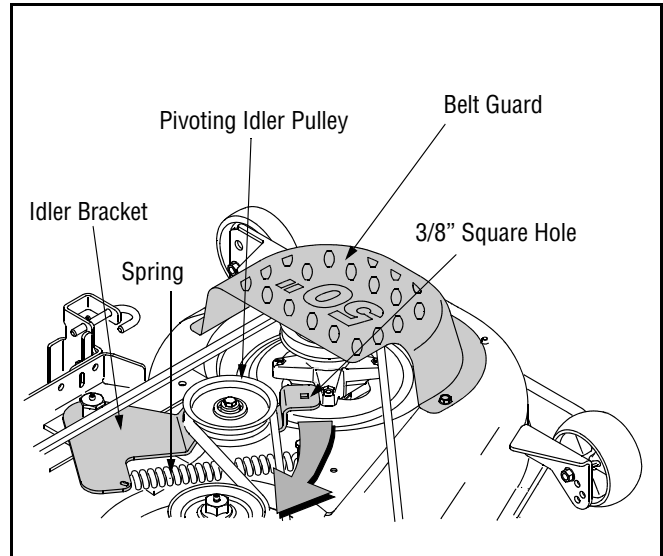

Figure 25
- To ease in removing the belt in later steps, loosen, but do not remove, the bolt which secures the pivoting idler pulley to the idler bracket. See Figure 25.
- Insert a 3/8"-drive ratchet wrench (set to *tighten*) into the square hole found in the idler bracket on the left side of the deck's surface. See Figure 25.